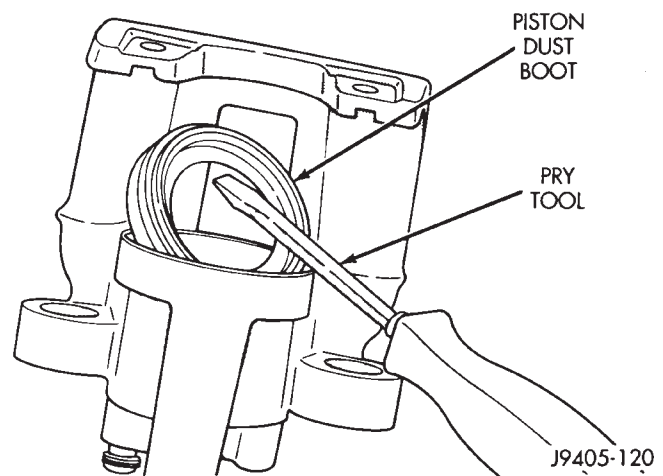

Fig. 77 Caliper Piston Dust Boot
- (5) Remove caliper piston dust boot (Fig. 77).